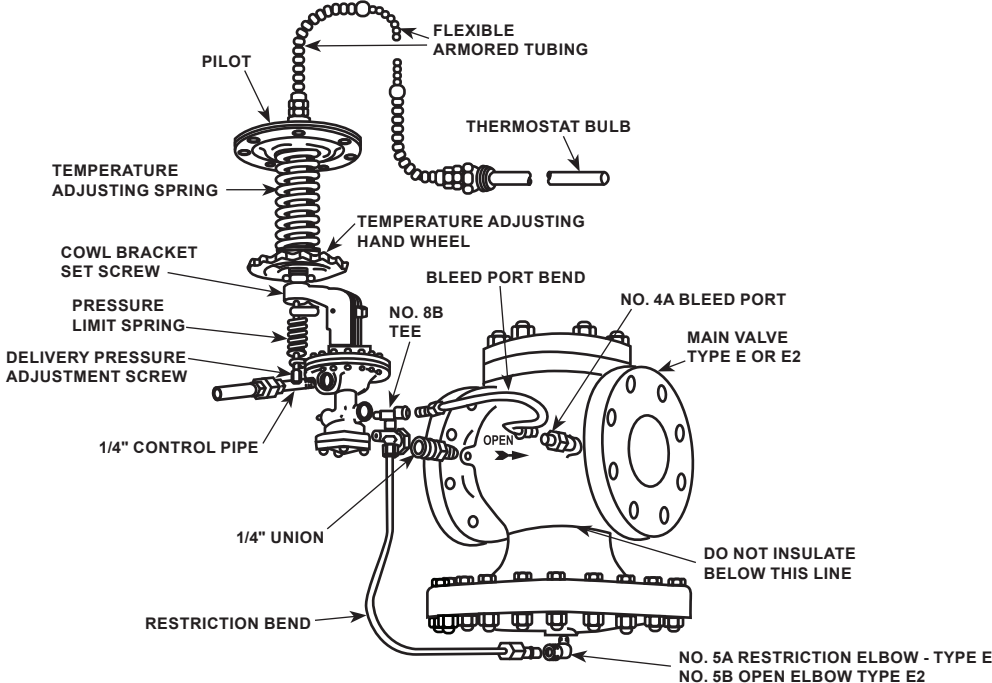

Figure 3. Type T124 Tubing Bends Connection
2. Connect the 1/4 in. / 6.35 mm pipe tap at the inlet side of the main valve as shown in Figure 3.
6. Connect tubing bends as illustrated in Figure 3. Valves with condensation chamber are fitted up according to Figure 4.
1. Use 1/4 in. / 6.35 mm pipe for this line which connects the pilot pressure diaphragm chamber (Figure 3) to the desired point of pressure control.